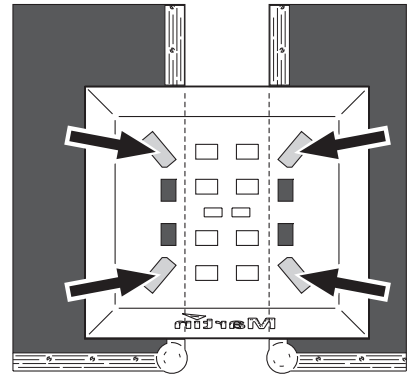

Figure 1: Corner moldings must be supported
2. See Figure 1. Place the RainMAC upside-down on two flight cases or similar supports.